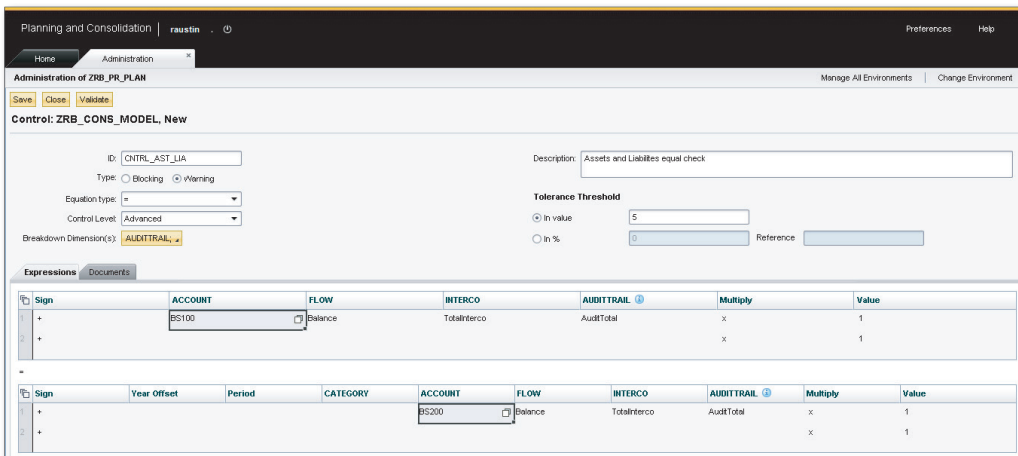

Figure 9.26 Configuring and Running Controls—Part E
- Define a control as shown in Figure 9.26. Every control has a unique ID associated with it. Notice that the **AUDITTRAIL** dimension is selected as a **BREAKDOWN DIMENSION**. The dimension member selected for the breakdown in the source is **AUDITTOTAL**. In the case of the breakdown dimension, the dimension member that is selected in the source has to be selected in the destination as well. The control is designed to ensure that the total of all of the assets (**BS100**) equals the liabilities and equity (**BS200**). The tolerance threshold is set to 5%, which means that the control will tolerate a difference of up to 5% when comparing the source and destination selections. Please note that in real-life scenarios, balance in assets should exactly match the sum of liabilities and equity and that the threshold of this check should be 0%.